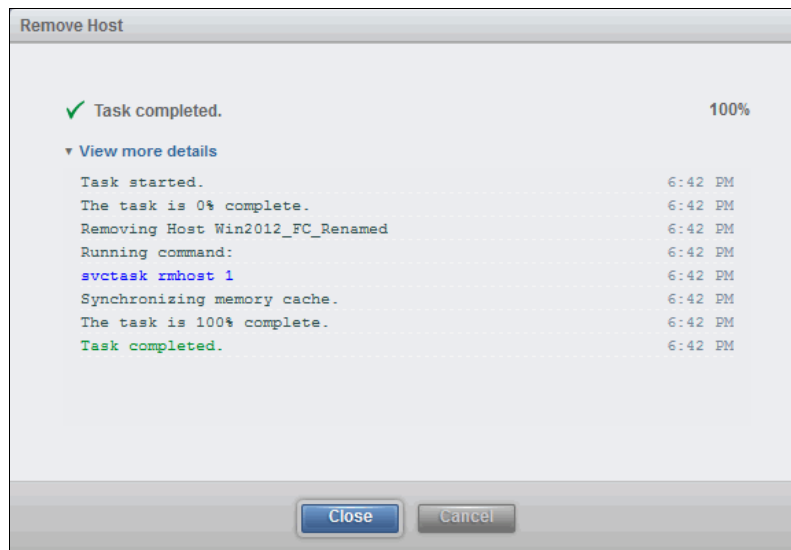

Figure 8-21 Remove host task completed
3. After the task is complete, click **Close** to return to the Hosts pane, as shown in Figure 8-21.